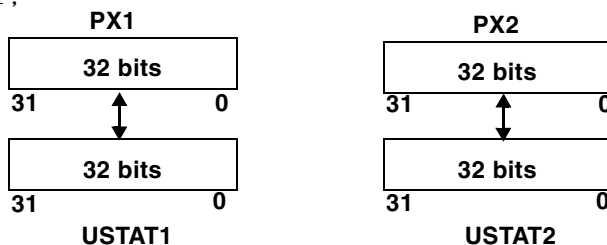

Figure 2-6. Transfers Between USTATx and PX Registers
- Transfers between USTATx and PX registers as in the following example and Figure 2-6. Note that all user status registers behave in this manner.